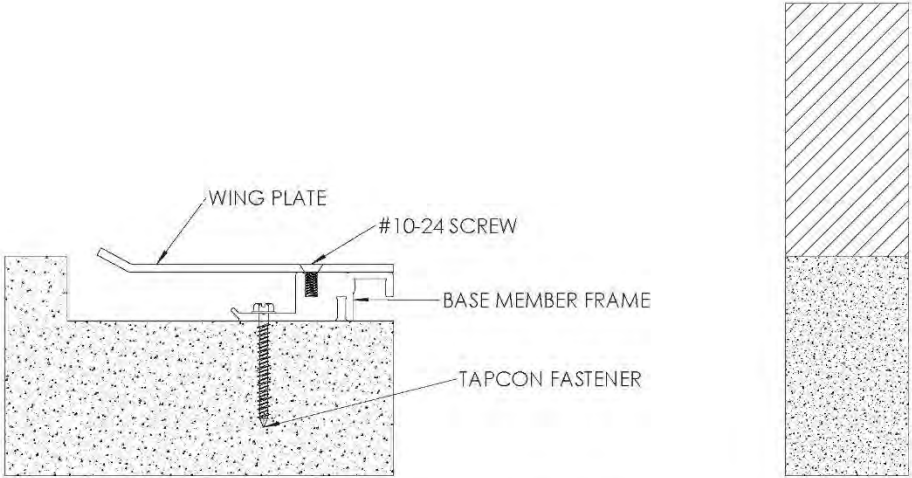

FIGURE 10
- 3. Reinstall the wing plate to the base member frame with the #10-24 screw. *Note: This step not necessary on the 2” & 4” sizes.* **See Figure 10**